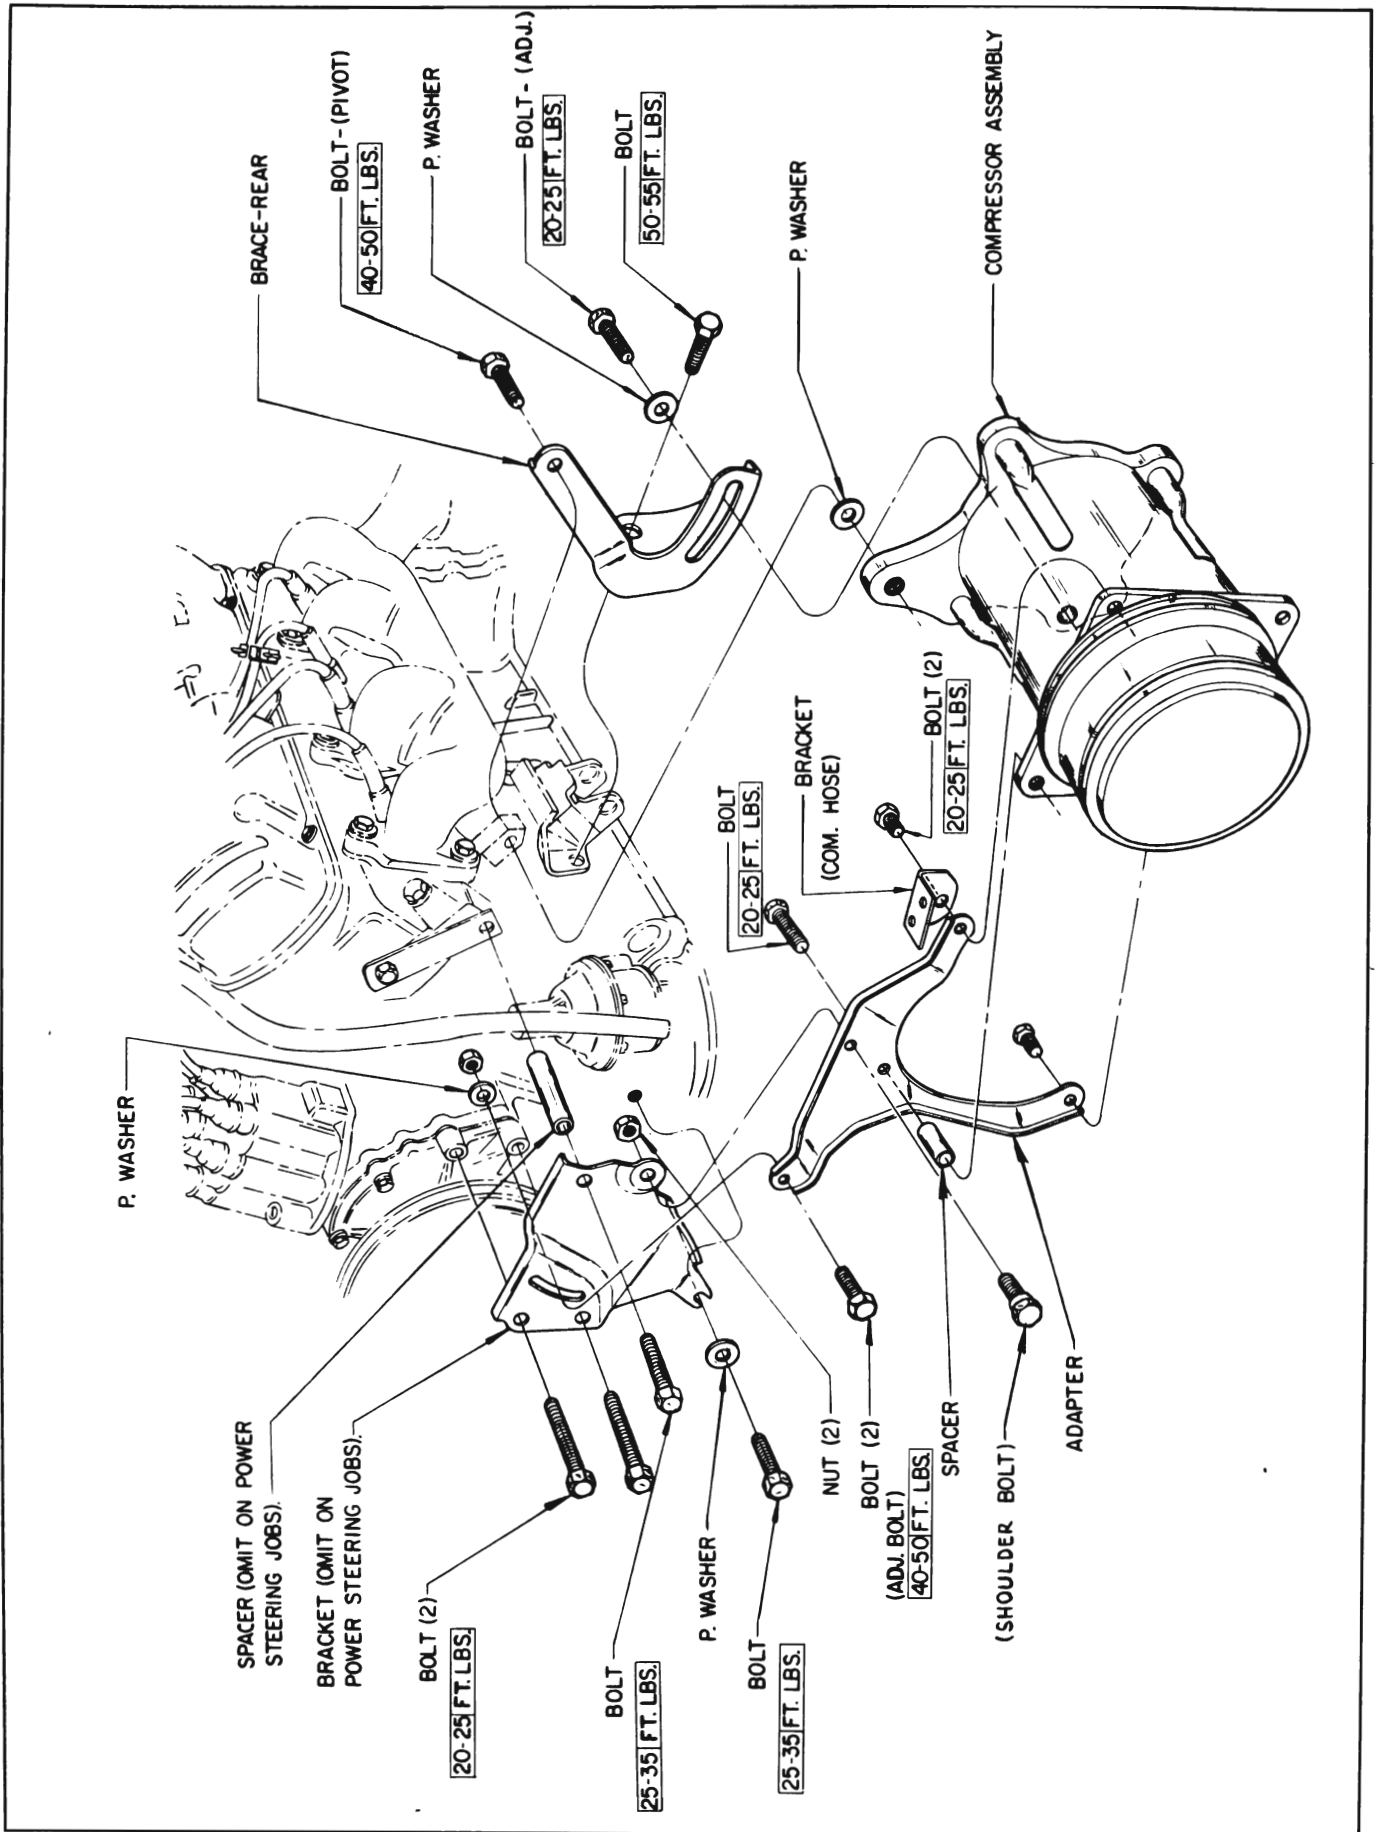

Figure 11-100—Compressor Mounting V-8 Engine
6. Remove the two bolts and nuts that retain compressor adapter to front bracket (oil pump front bracket on power steering cars). See Figures 11-100 and 11-101.